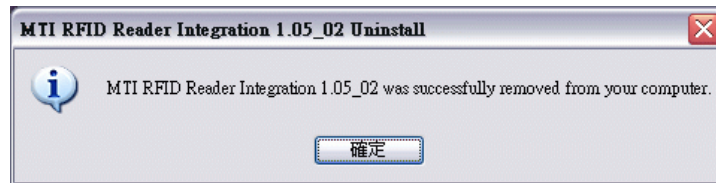

Fig. 8 Uninstall MTI RFID Integration successfully.
**Step 3:** Click “OK” to finish uninstallation, shown in Fig. 8